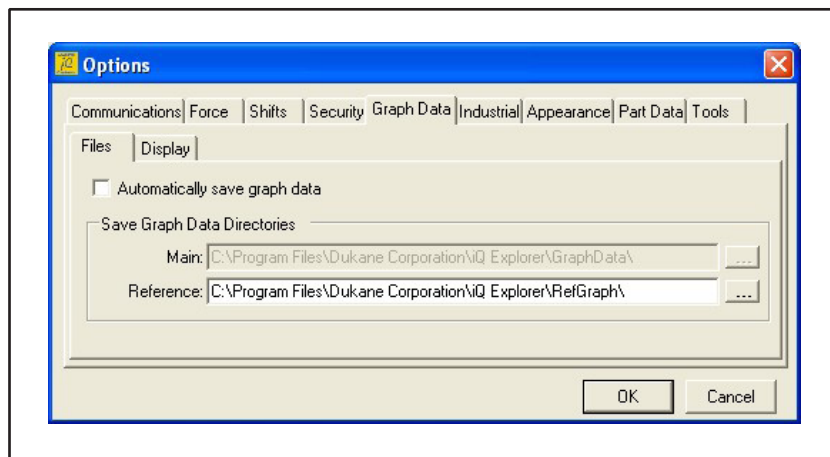

Figure 4-50 Save Graph Data
1. Click the Options icon. (Refer to Figure 4-50.)